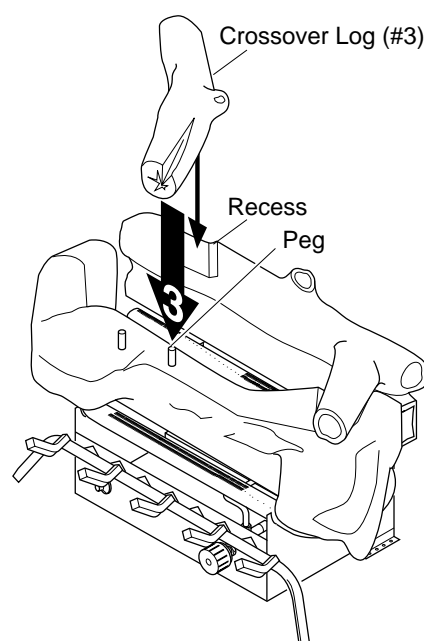

Figure 25 - Installing Crossover Log (#3)
3. Place crossover log (#3) onto the pin (right) on middle log (#1) and into the recess of the back log (#2). See Figure 25.